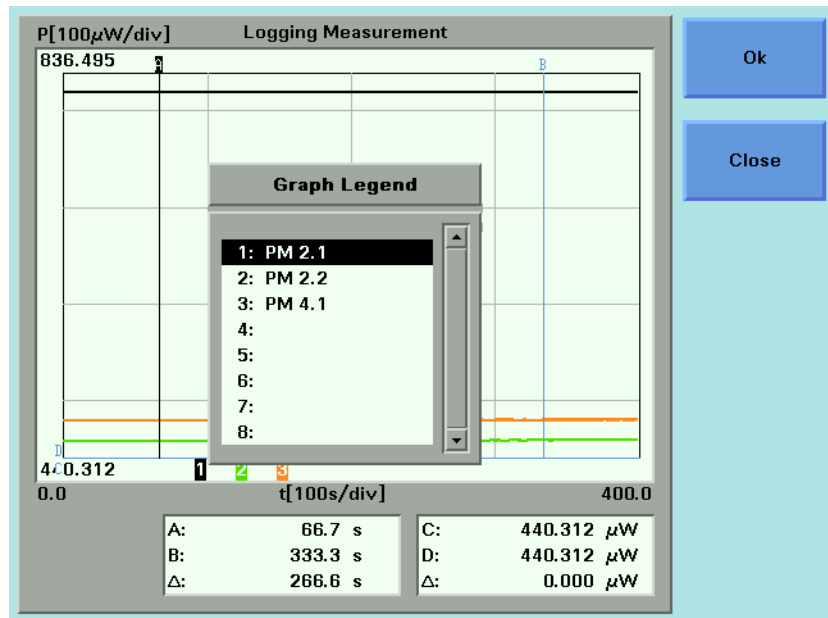

Figure 152 The Graph Legend Screen
- 1 Press the [Menu] softkey and move to <Legend>. A list of the Power Meter channels appears that is similar to Figure 152 on page -252, where all the Power Meters are listed numerically with regard to legend number. All legend texts, if you have not previously edited the legend text, are of the "PM x.y", where x represents the slot number and y represents the channel number.